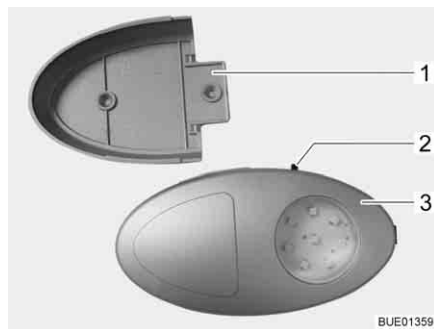

Fig. 64 Wardrobe light
- ▷ The wardrobe light can be removed from its holder (Fig. 64,1) and used as a torch.
The On/Off switch (Fig. 64,2) is located directly on the wardrobe light (Fig. 64,3).